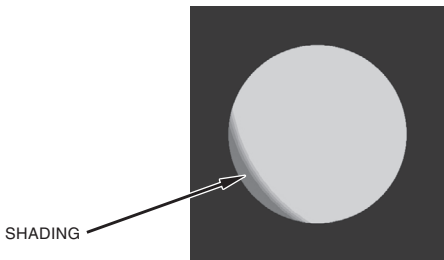

FIGURE 2.3. SHADING
(1) Shading. If shading is present, you will not see a fully circular image (see Figure 2.3). Shading is very dark and you cannot see an image through it. Shading always begins on the edge and migrates inward eventually across the entire image area. Shading is a high contrast area with a distinct line of demarcation. Return the MUNVM to the maintainer.